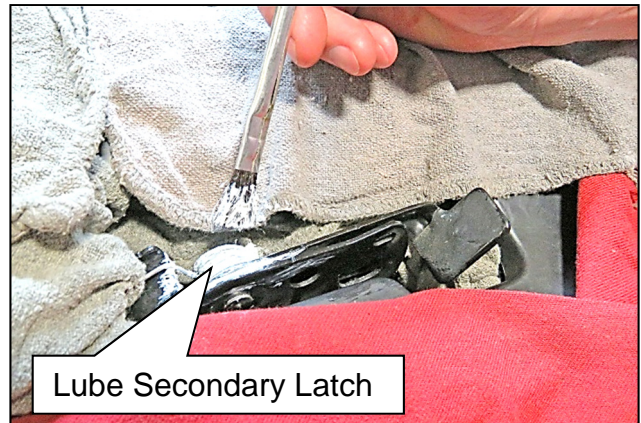

Figure 7
10. Apply non-aerosol white lithium grease to the Secondary Latch (Figure 7).